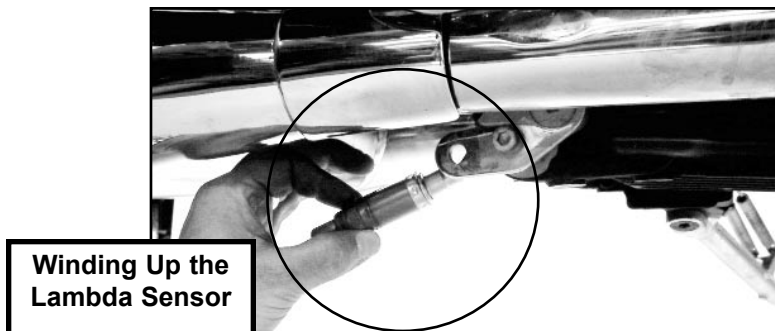

Figure 13
8. Rotate the Lambda Sensor about ten turns to "wind-up" the wires to the sensor. Thread the sensor into its port in the collector pipe, the wire should unwind as it's threaded in. Tighten firmly, 45Nm (32 ft/lbs). Figure 13.